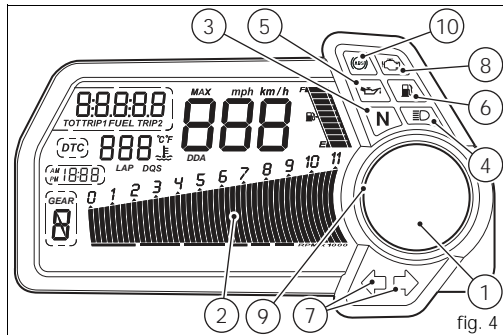

fig. 4
- 9) Limiter light "Over rev" / traction control light "DTC" (RED) (fig. 4):
- 10) ABS LIGHTS  (AMBER YELLOW) (fig. 4). This turns on to indicate that ABS is disabled or not functioning.